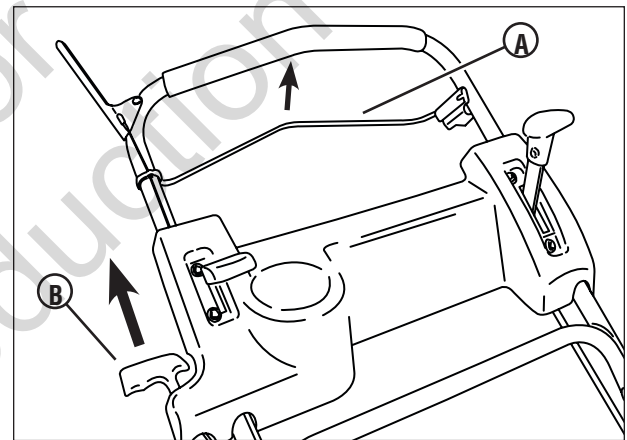

Figure 3: Starting the mower
2. Pull the blade control (**A, Figure 3**) against the handle.